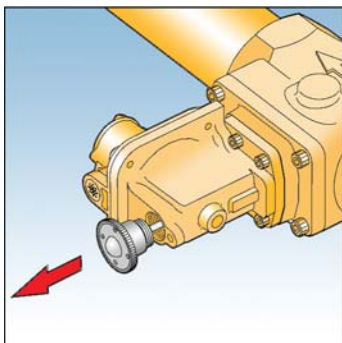

Fig. 5
4. If safety shut-off device is fitted unscrew reset spindle end cap and firmly pull. Hold in this position until the outlet pipework is fully pressurized, then release reset spindle end cap gently. See Fig. 5.
**WARNING: DO NOT UNDER ANY CIRCUMSTANCES WEDGE OPEN SAFETY SHUT-OFF RESET END CAP AS THIS WILL NOT ALLOW THE SAFETY DEVICE(S) TO FUNCTION IN ADVERSE PRESSURE CONDITIONS.**
11. If safety device fitted, re-cock by unscrewing reset spindle end cap and pulling firmly. Hold in this position until the outlet pipework is fully pressurised, then release reset spindle end cap gently. Re-screw reset spindle end cap into body. See Fig. 5.